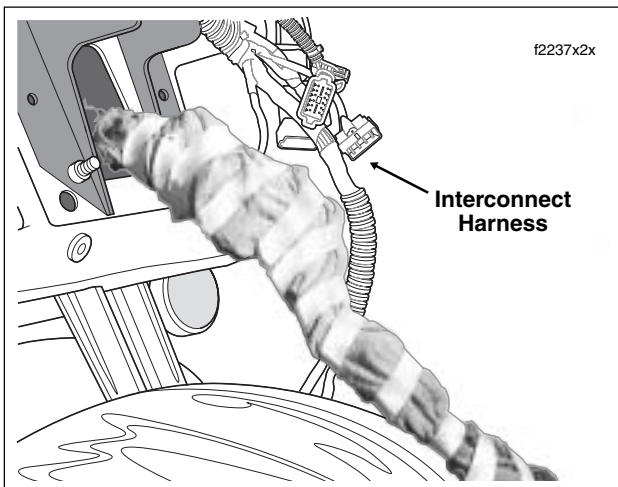

Figure 2-169. Wrap Main Harness in Shop Towels
12. Capturing all connectors, tightly wrap clean shop towels around the main harness conduit, handlebar switch control conduit, radio ground wire and radio antenna cable, and secure with masking tape. See Figure 2-169.
5. Draw wire harnesses and conduit out tunnel of fairing bracket and pull as far forward as possible. Tightly wrap clean shop towels around all conduit and connectors and secure with masking tape. See Figure 2-169.
10. Draw the harness bundle as far forward as possible, resting the end of the bundle on the front fender. See Figure 2-169.